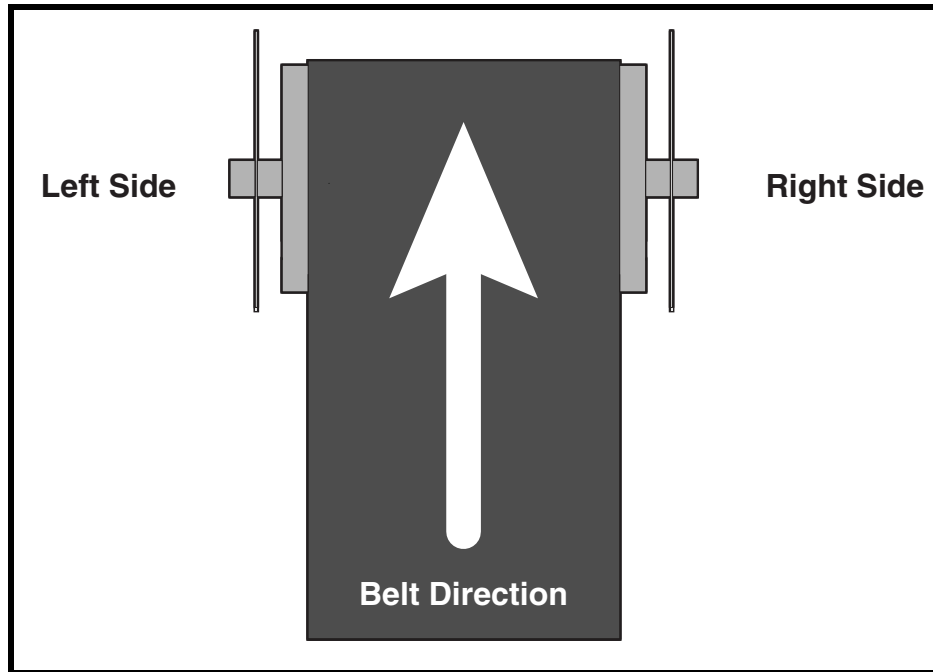

Figure 1. Determining Tensioner Orientation
7. Right hand side or left hand side is determined by standing at the tail pulley and looking toward the head pulley as shown in Figure 1.